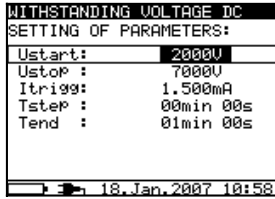

Fig. 28 Set-up menu in Withstanding Voltage function
- Press the SELECT key, (the set-up menu (**Fig. 28**) appears on the display).